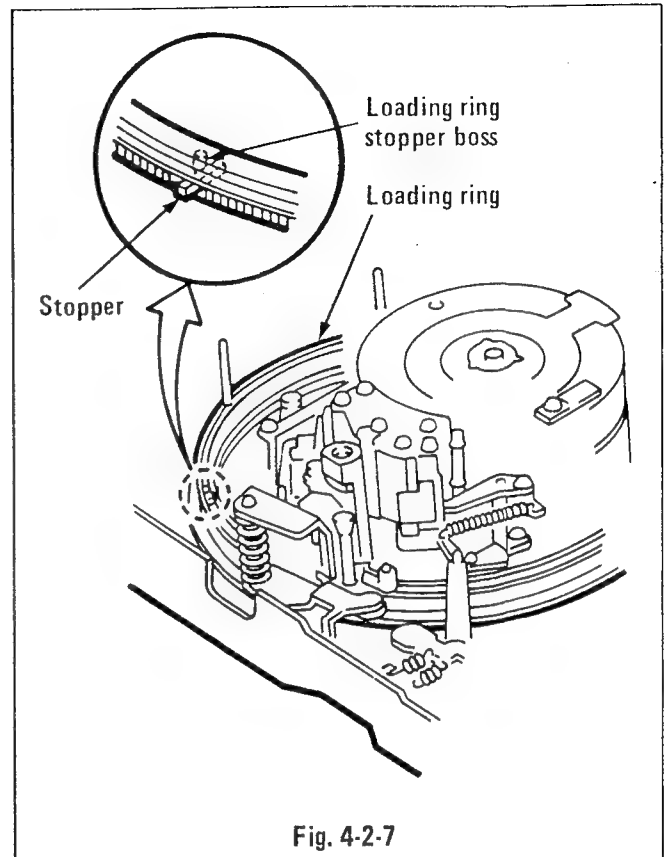
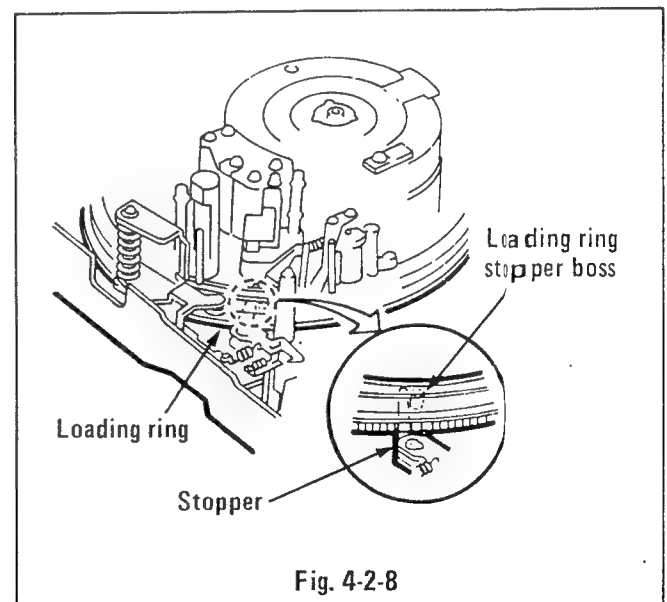

Fig. 4-2-7
Fig. 4-2-8
(1) To load, manually rotate the loading motor pulley in the direction of arrow A, and the loading ring will rotate counter clockwise.
(2) At the completion of the loading condition, the loading ring stopper will function to stop the loading ring rotation. (See Fig. 4-2-7.)
(3) To unload, manually rotate the loading motor pulley in the direction of arrow B, and the loading ring will rotate clockwise.
(4) At the completion of the unloading condition, the loading ring stopper will function to stop the loading ring rotation. (See Fig. 4-2-8.)